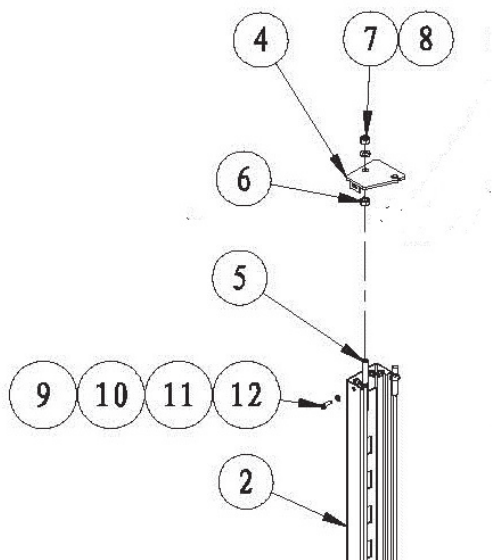

Fig. 4b
13. Secure Top Cap and Lock Ladder assemblies together with Washer and Nut as shown in Fig 4b. ***Note: Ensure Jam Nut is positioned below Top Caps.*** Position the Crossbeams at the second lowest locking position on all columns